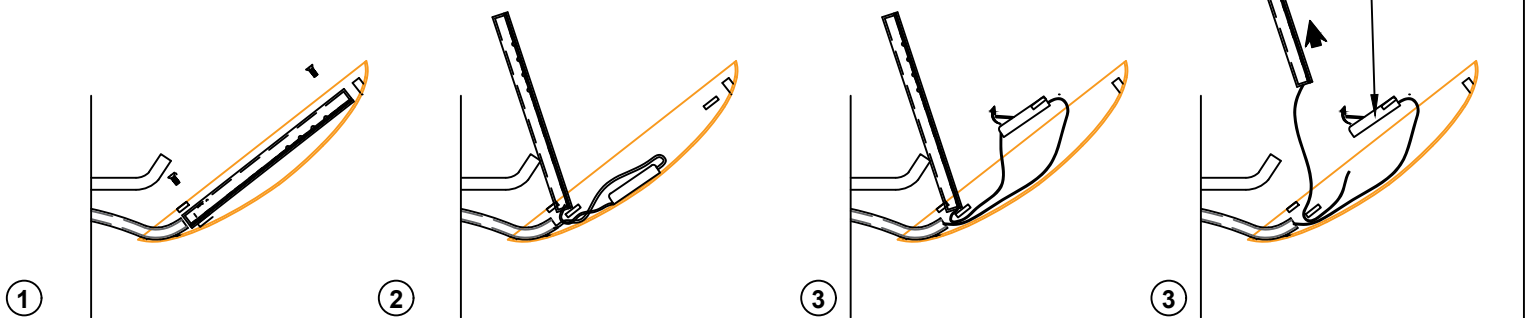

FIGURE: 1-2
STEP 3: Carefully remove the connection of wire to the wire connector. Just pullup the locking mechanism of wire connector.(see figure 1-2)